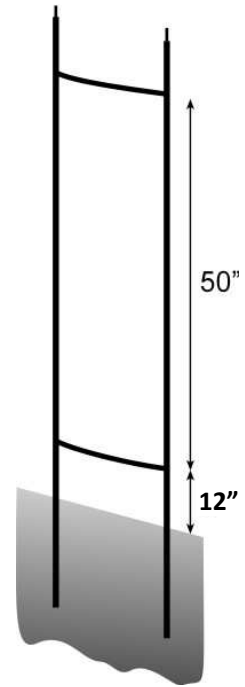

Figure 6: Position of the Spacer Bars
17. Attach 2 spacer bars to each of the uprights. The lower spacer bar should be positioned 12" above ground level, then position the other Spacer bar 50" above the lower spacer bar, as shown in Figure 6.